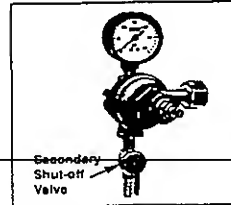

Fig 9
- Before doing that, make sure the secondary shut-off valve is closed, as shown in figure 9. To open the main CO2 cylinder valve, slowly turn the main valve counter-clockwise until fully open.